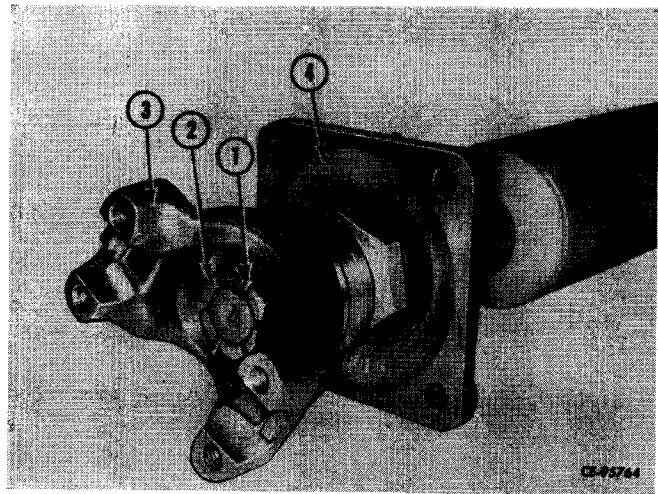

Figure 5-4
Disassemble center bearing (4, Fig. 5-4) from end of drive shaft by removing cotter pin (1) and nut (2).